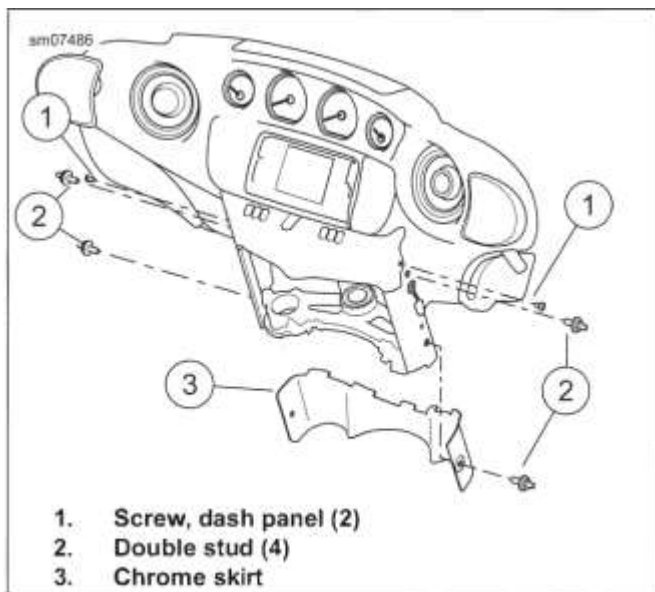

Figure 3-101. Inner Fairing Fasteners
See Figure 3-101. Remove double studs (2).
2. Remove chrome skirt (3).
4. See Figure 3-101. Remove double studs (2).
5. Remove chrome skirt (3).